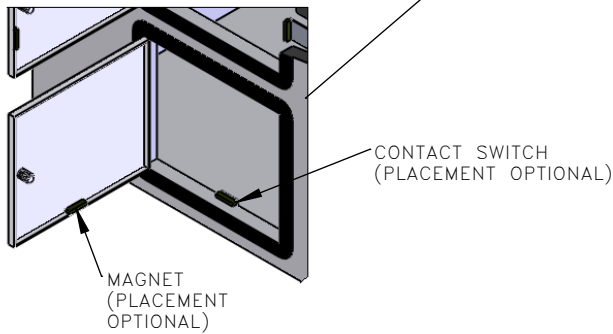

FIGURE 2B
**MAGNETIC CONTACT ASSEMBLY (*Instant Trigger*):** For the Cash Door, remove the two-sided tape backing from the switch portion of the magnetic contact assembly, and locate a convenient space on the cash door opening and attach the switch. (See Fig. 2B). Attach the magnet portion to the inside of the cash door parallel to the switch. (See Fig. 2B). Check Alignment. For the Rear Door, attach the switch portion to the inside wall of the Rear Door Access, then attach the magnet portion to the inside of the rear door parallel to the switch. (See Fig. 3). Check alignment.